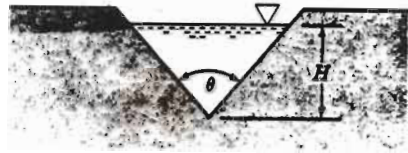

FIGURE P7.32
7.32 The flowrate,  $Q$ , in an open canal or channel can be measured by placing a plate with a V-notch across the channel as illustrated in Fig. P7.32. This type of device is called a V-notch weir. The height,  $H$ , of the liquid above the crest can be used to determine  $Q$ . Assume that